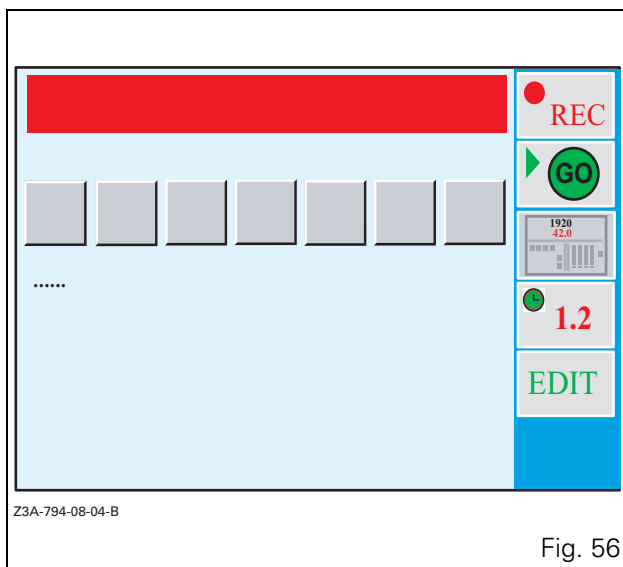

Fig. 56
- Pressing the key «₅ (facing symbol 29) calls up the HEADLAND configuration menu. The window (Fig. 56) is displayed.